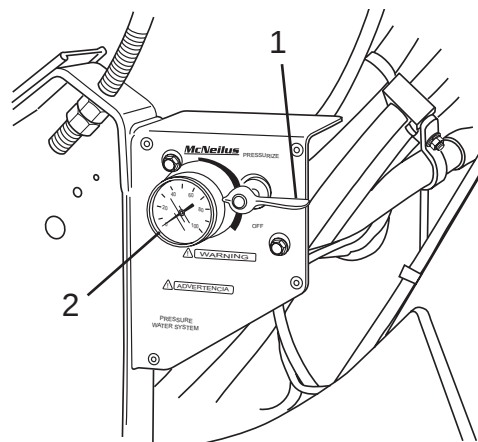

Figure 75
1. Turn air pressure control valve to EXHAUST position (Figure 75, Item 1). Make sure the gauge (Figure 75, Item 2) reads 0 psi (0 kPa).